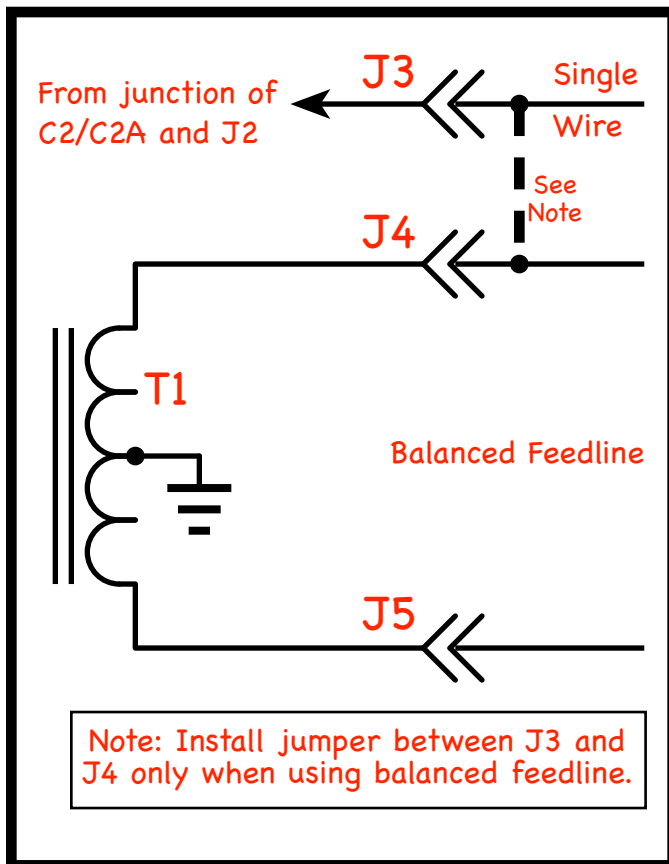

Figure 11: A toroidal balun (T1) may be added to any of the Transmatch networks discussed for a balanced feedline.
very sharp, especially on the lower bands, and a vernier knob on the capacitors was needed to ease tuning. The second drawback turned out to be the one that killed the SPC design. It was found to be significantly more lossy than the other two. Heathkit never used the SPC circuit; the SA-2040 uses the *Ultimate* Transmatch circuit and the later SA-2060(A) and SA-2500 both use the Tee-Transmatch circuit. Not shown in the **Figures 10** is the balun often found in these tuners. It is shown in **Figure 11**.